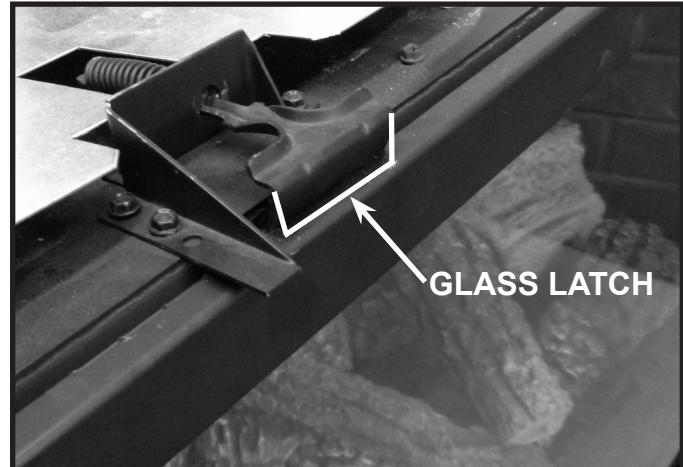
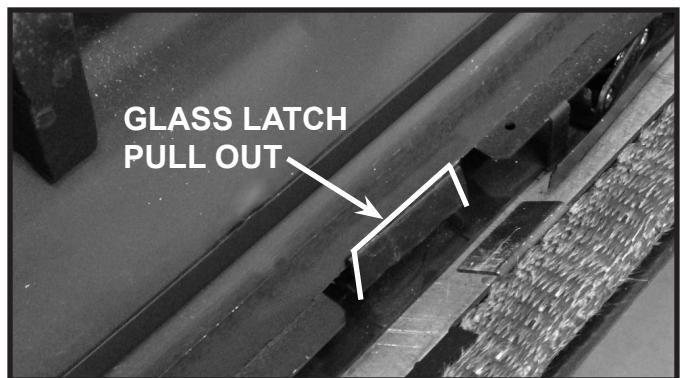

Figure 4.1 Top Glass Latch
Figure 4.2 Bottom Glass Latch
• The glass assembly fastens to the fireplace in four places. The fastening mechanisms are spring-loaded glass latches. An example of the top glass latch is shown in Figure 4.1 and an example of the bottom glass latch is shown in Figure 4.2.